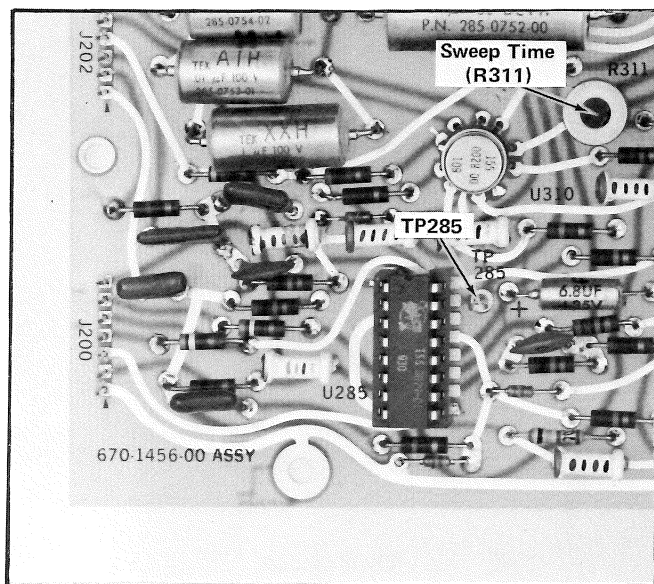

Fig. 5-6. Location of TP285 and R311 on the Sweep Board.
- a. Connect the 1X probe to TP285 (see Fig. 5-6).